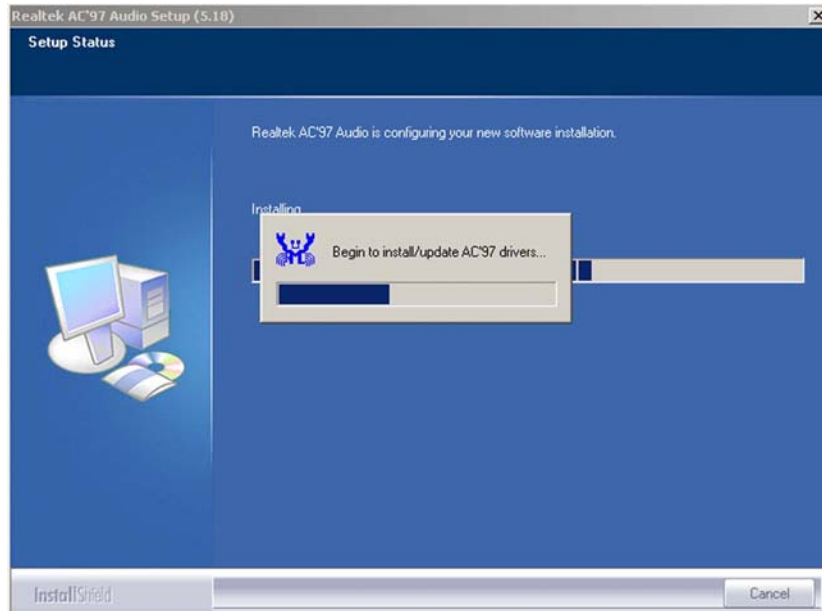

Figure 7-29: AC`97 Audio Driver Installation Begins
Step 8: After clicking the “YES” button in **Figure 7-28**, the installation of the driver begins (**Figure 7-29**).